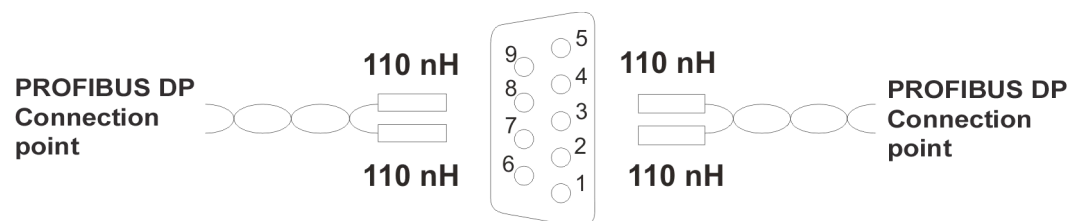

Figure 3.62 – Connection of Connectors and Inductors on the PROFIBUS DP network
- For 12 Mbits/s rates, install 110 nH conductors, as per Figure 3.62;